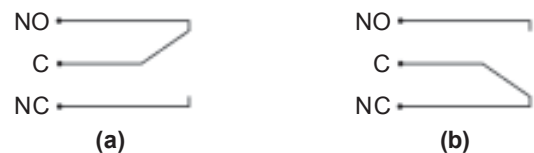

Figure 7: Alarm contacts:
3.6 External Alarm: All MULTIMOV surge diverters are fitted with external alarms (voltage free changeover contacts) for remote monitoring of unit status. The terminals have a capacity of 2.5mm² and are configured as follows (refer to Figure 7):